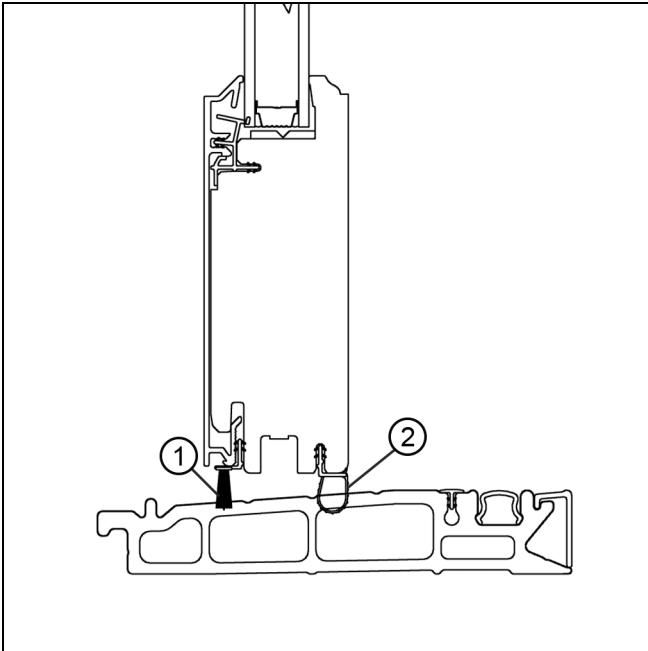

Figure 10
1. On stationary panels, insert the barbed side of the bulb weatherstrip into the kerf on the interior side of the panel. On the exterior side of the panel, insert the barb on the pile weatherstrip into the kerf on the bottom of the panel. See Figure 10.